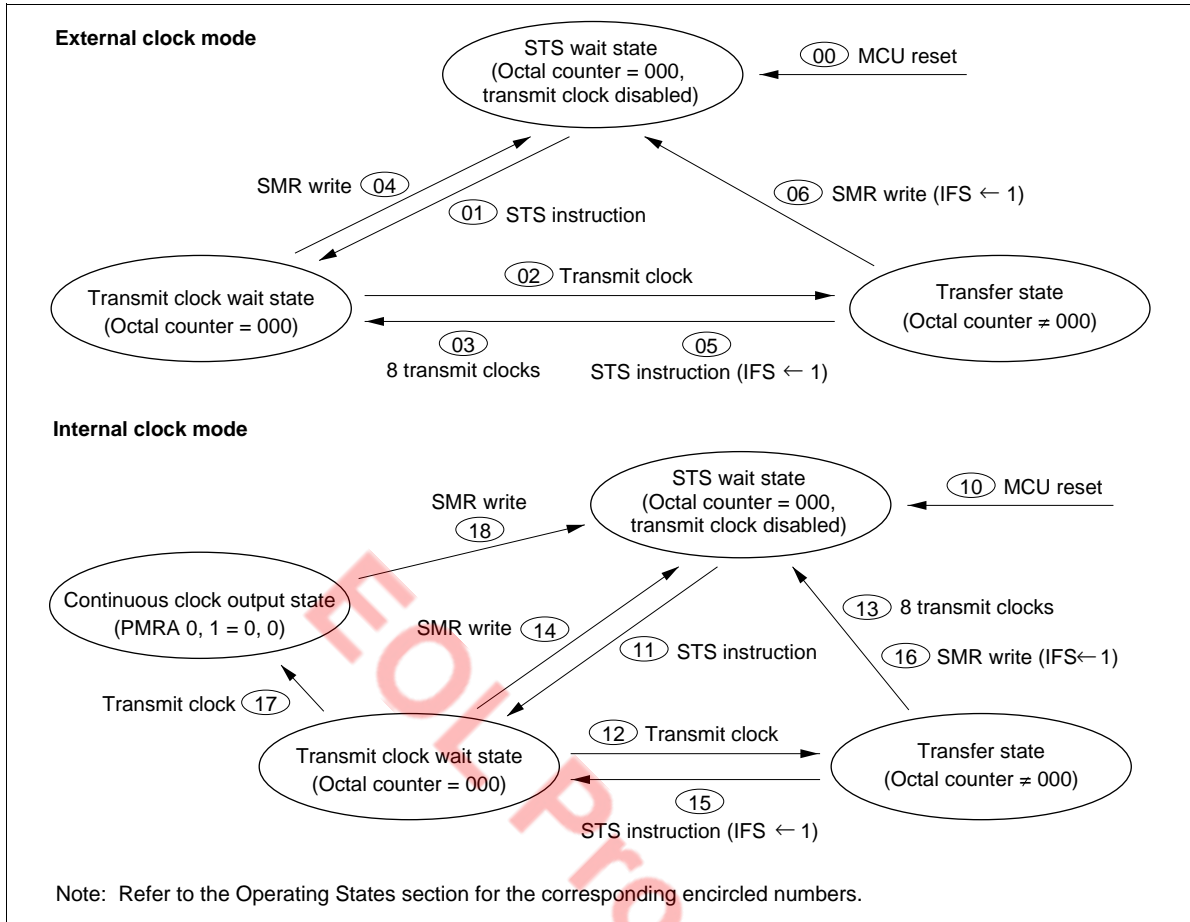

Figure 52 Serial Interface State Transitions
**Operating States:** The serial interface has the following operating states; transitions between them are shown in figure 52.